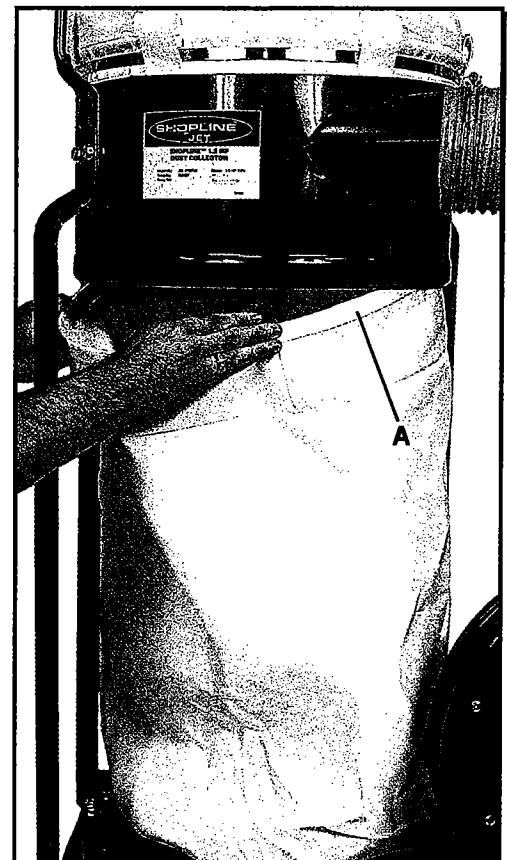

Fig. 8
- Place the ring (A, Fig. 8) of the collector bag into the bottom of the housing. Pull on the bag to make sure it "seats" in the housing.